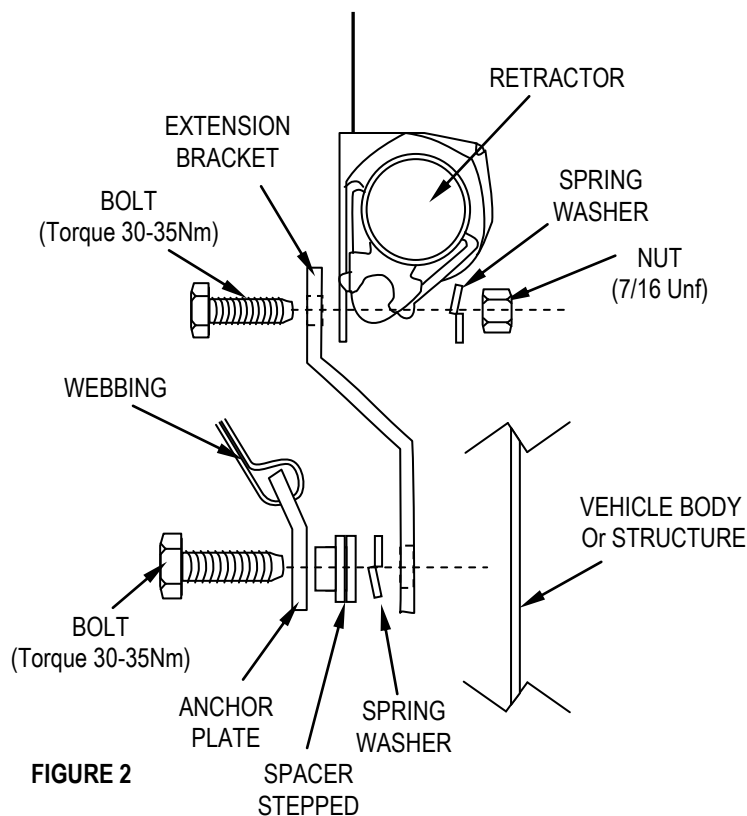

FIGURE 2
- Attach the Mounting Bracket to the retractor as shown in Fig.2.
- Where required the anchor plate can also be attached to the Mounting bracket as shown. (Fig.2).